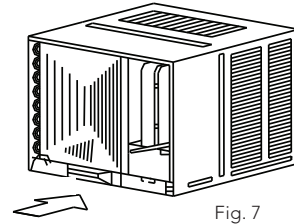

Fig. 7
- 3 Push the unit chassis into the cabinet (See Fig.7).